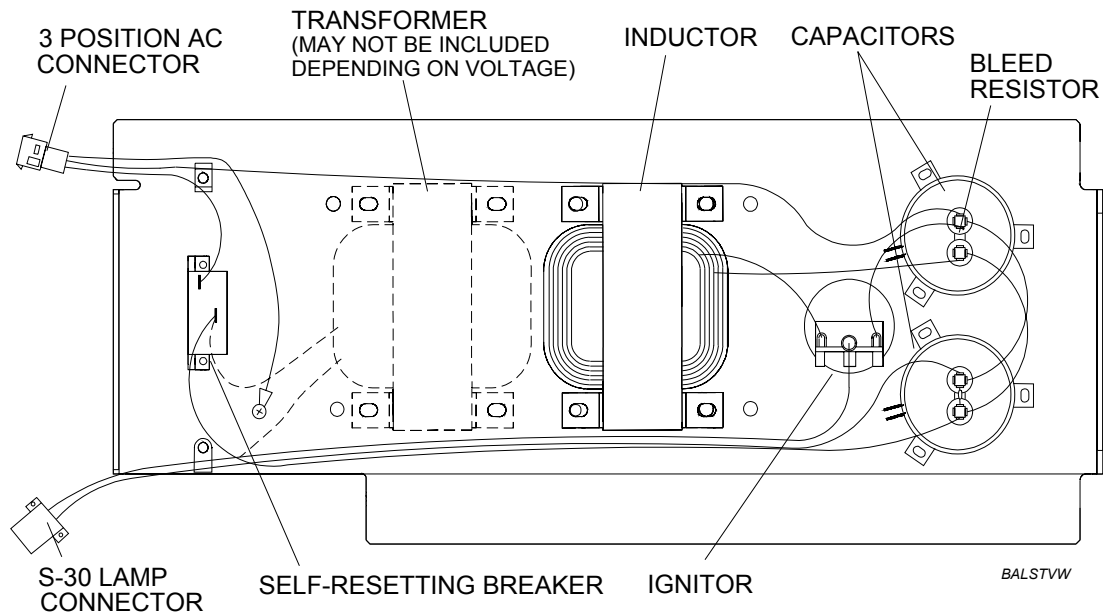

Figure 6.14 - Ballast (Standard Version)
6. Ensure that the appropriate capacitor contains a bleed resistor across terminals (Figure 6.14 and 6.15).